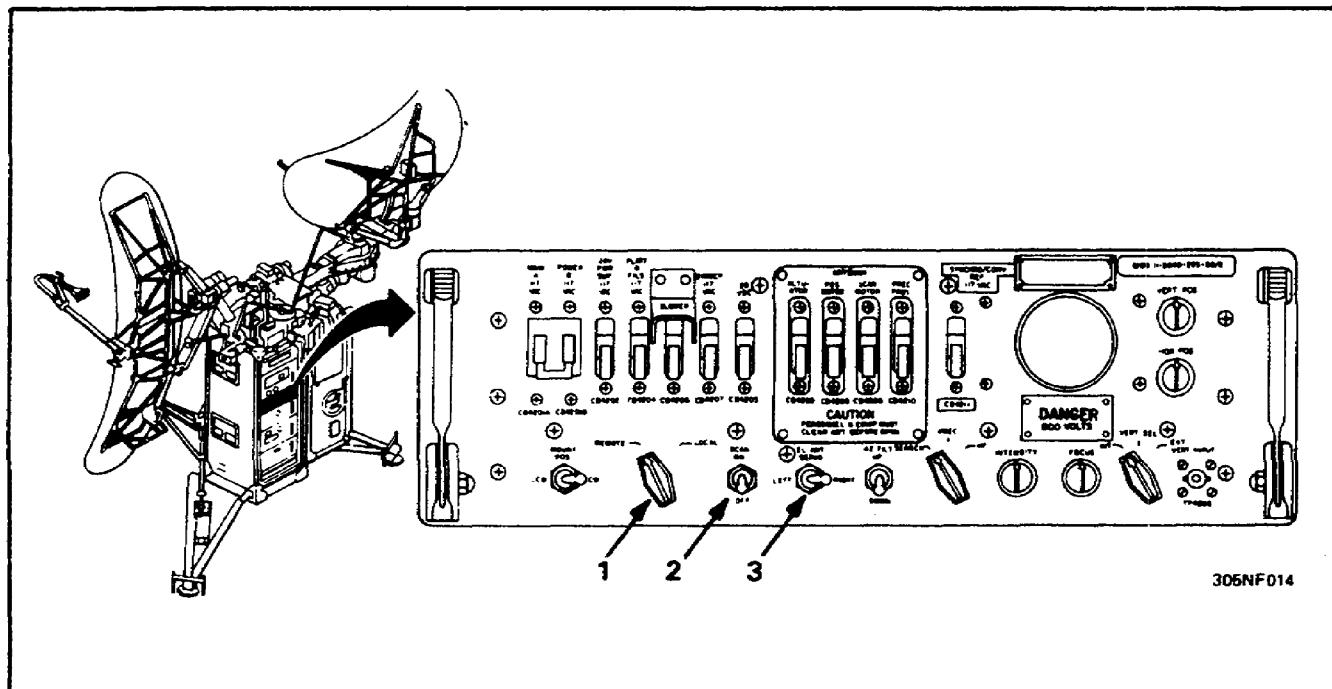

Figure 28. Control monitor C-2124A/FPN-33.
e. Locate the following on control-monitor C-2124A/FPN-33. (See Figure 28.)
- (1) LOCAL-REMOTE switch S4203.
- (2) SCAN switch S4201.
- (3) EL ANT SERVO switch S4205.
- LOCAL-REMOTE switch S4203 (Figure 28)
- SCAN switch S4201 (Figure 28)
- EL ANT SERVO switch S4205 (Figure 28)